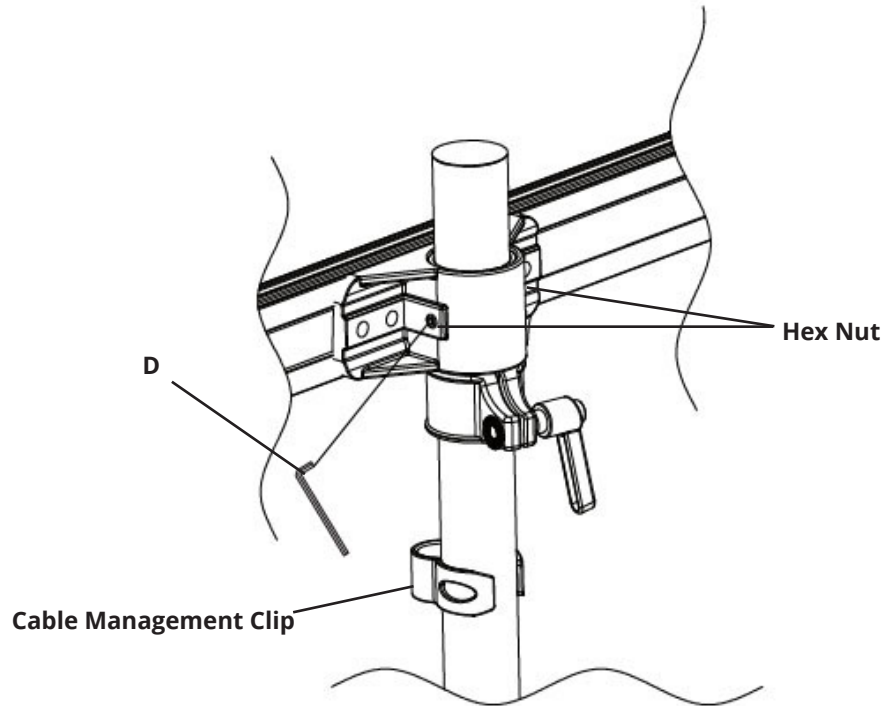

Figure 2B
- Secure the Arm Assembly by tightening the Hex Nuts finger tight using the included **3mm Allen Key (D)** as shown in **Figure 2B**. Install the **Cable Management Clip** onto the Tube Support, see **Figure 2B**.